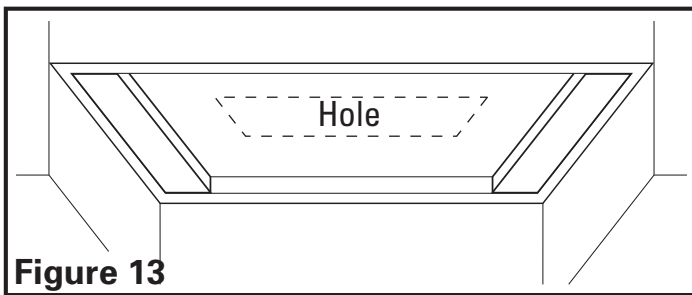

Figure 13
4. Mark the location where the outlet adapter (available separately) will be located on the cabinets and cut a hole approximately 1" larger on all sides than the outlet adapter (**Figure 13**).